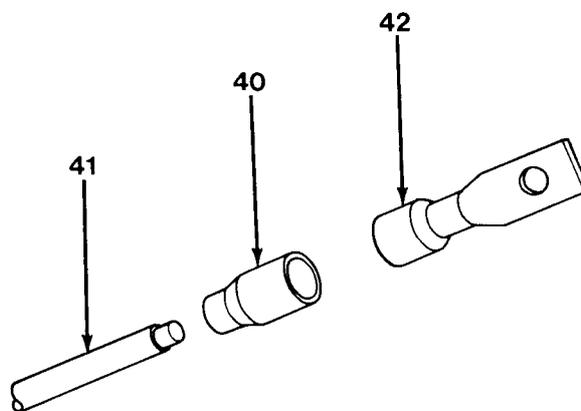

Figure 10-9
2. Slide insulator (40) over cable (41, Figure 10-9).